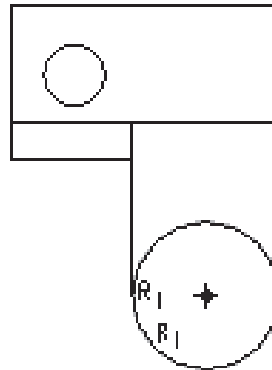

Figure 5-41 Sketch for the fourth feature
6. Draw the circular section for the fourth feature as shown in Figure 5-41. Choose the **Create concentric circle** button from the **Sketcher Tools** toolbar to draw the sketch for this feature. Select the arc using the left mouse button. As you drag the mouse the cyan colored rubber band circle changes its size. As you move the mouse cursor close to the arc, the cursor snaps to the arc. Use the left mouse button and select a point on the arc. You will notice that the equal radius constraint is applied to the sketch. Now, use the middle mouse button to abort this option.